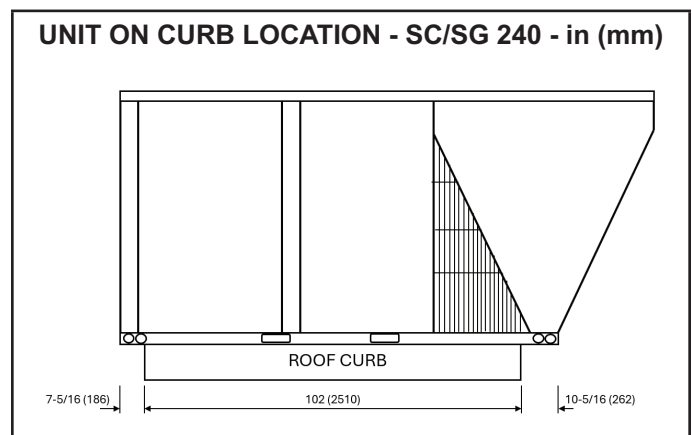

FIGURE 3
- 7 - 240 units will also overhang if mounted on C-box curb. See FIGURE 3 for details.